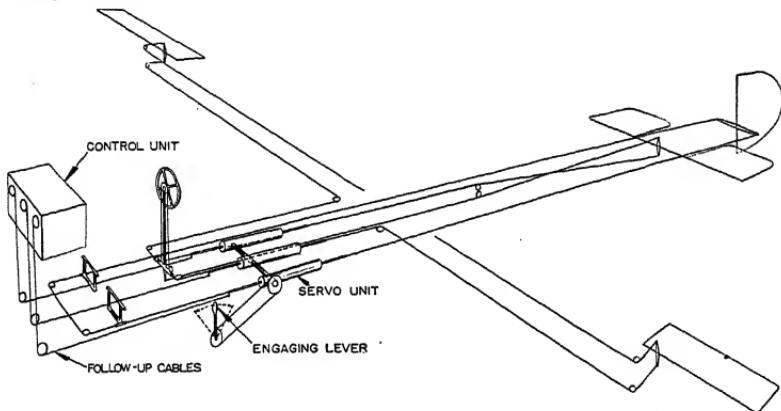
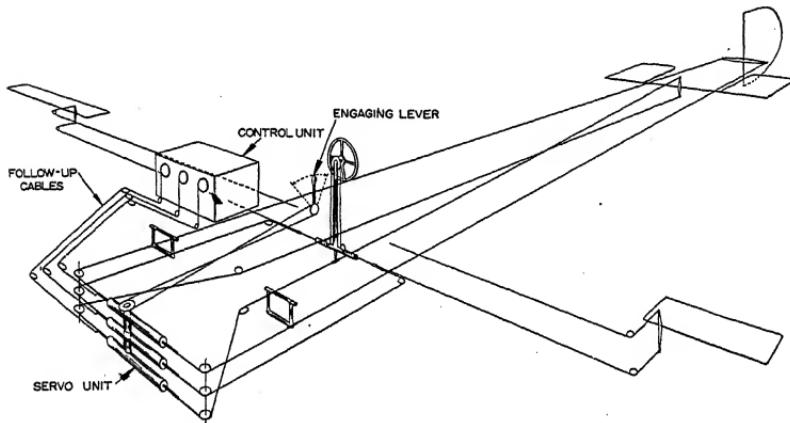

FIG. 79.—Cable connections with servo in series with main control system.
FIG. 80.—With servo cable connections paralleled into main control system.
The servo unit should be installed in the main control cables in series (Fig. 79) when possible. Where this is not feasible, a parallel type of installation should be used, as shown in Fig. 80. Servo rods can be used only in tension with cables. The equipment is not designed for use in compression. For either installation, brackets and structure to which the servo unit is attached must be sufficiently strong to withstand the design load of any two cables applied simultaneously (C.A.A. regulations). It is recommended that the servo unit be mounted in a horizontal position in order to preclude the possibility of trapping air in the cylinders.
**Hookup of Units.**—The *main cables*, attached to the ends of the servo unit piston rods, should have their pulleys and guides located so that no side loads will be exerted on the servo rods. Any cylinder can be used for any given control in either direction, the follow-up cables and tubing being connected to the proper places on the mounting unit. The  $\frac{3}{8}$ -24 threads on the ends of the piston rods take a standard A.N. clevis. Stops should be provided in the airplane's control system set so that the servo unit is not employed as a stop at the end of its stroke. It is best to lay out the control system using the servo unit *in series* as shown in Fig. 79, as it generally reduces the amount of cable and pulley installation required. When necessary a parallel installation can be used as shown in Fig. 80, or a combination of series installation